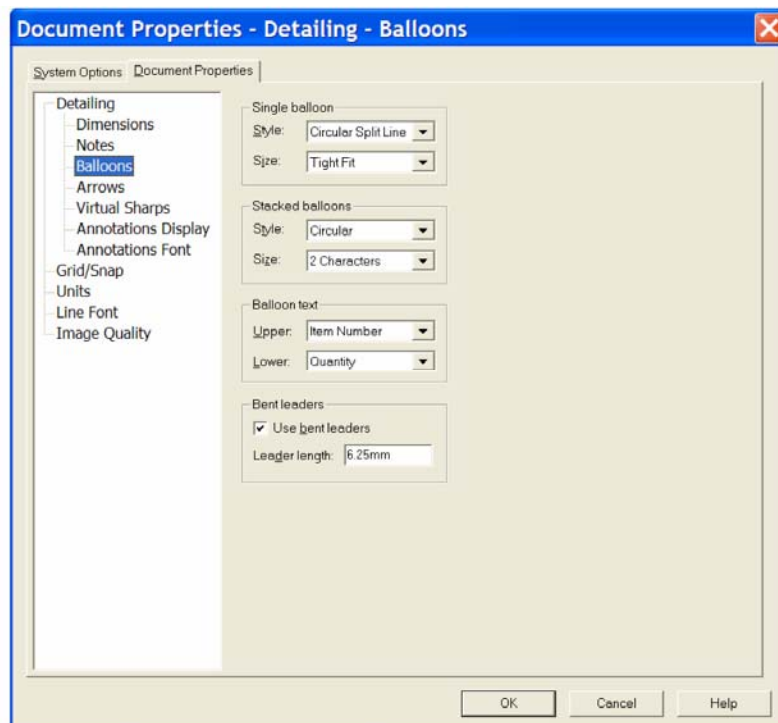

Figure 4
- Go to **'Balloons'**; in the **'Single Balloon'** area style window, select **'Circular Split line'**. In the **'Balloon Text'** area set **'Upper:'** to **'Item Number'** and **'Lower:'** to **'Quantity'**. In the **'Bent Leaders'** area check the **'Use Bent Leaders'** box. See Figure 4.